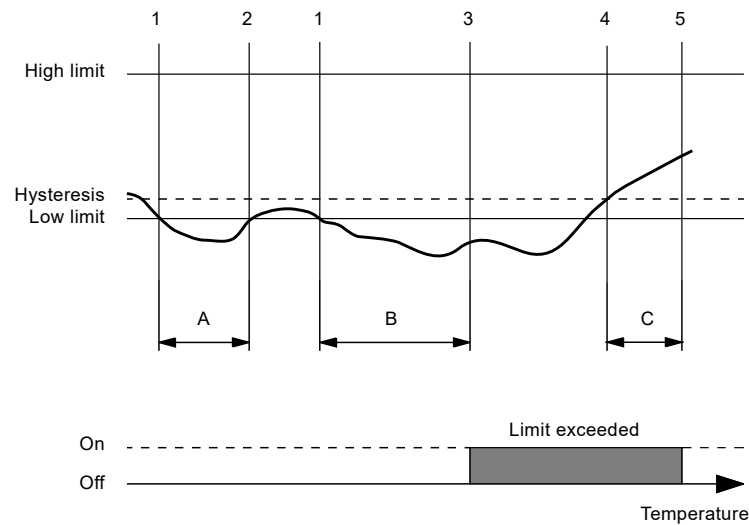

Fig. 47 Example of low limit exceeded
These are monitoring functions offering information, warning, alarm, or change of operating mode when a low or high limit is exceeded. See fig. 47.
The detection delay timer starts when a limit is exceeded (1). See fig. 47.
- A: If the limit is no longer exceeded (2) when the detection time expires, the timer is reset.
- B: If the limit is still exceeded (3) when the detection time expires, the output of the detector will change to "Limit exceeded". The reset delay timer starts when the detector output is "Limit exceeded" and the limit is no longer exceeded, using hysteresis (4).
- C: When the delay time has expired (5), the detector output changes to "Limit not exceeded".